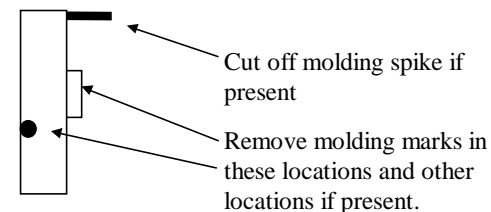

FIGURE 5
1. Remove all burrs and molding marks from the wheels (see Figure 5). An Exacto knife makes a nice tool for removing burrs.